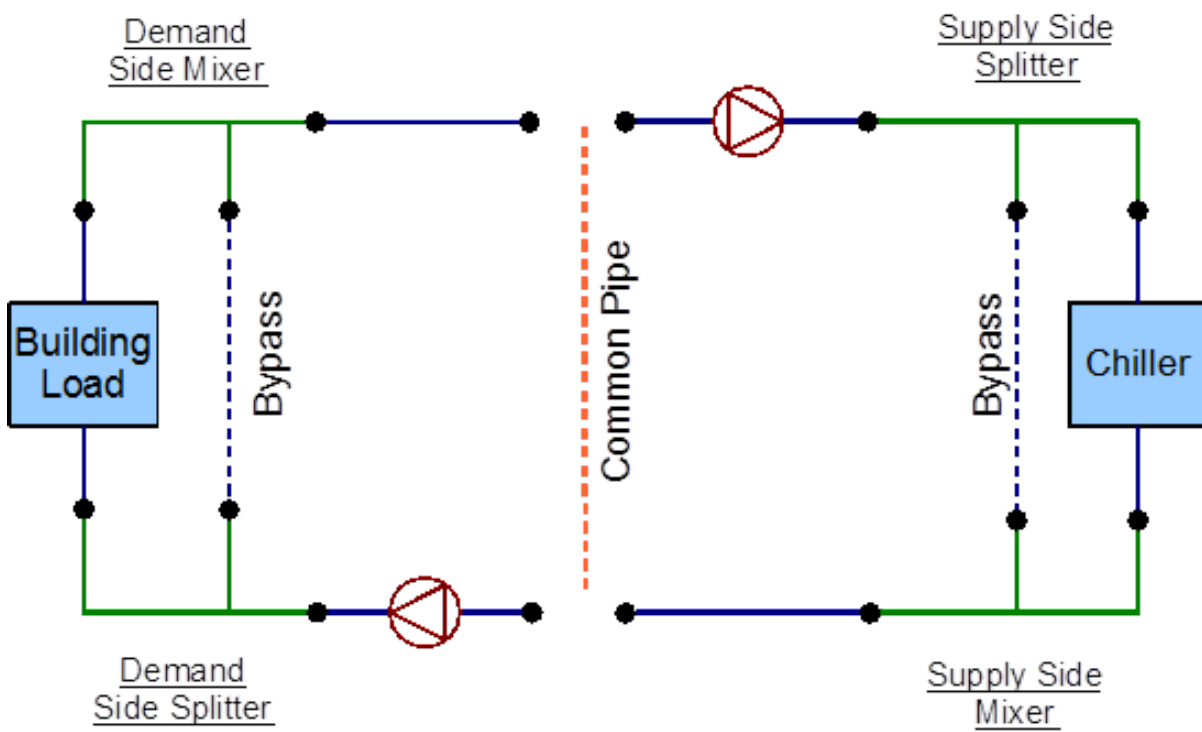

Figure 4.9: Complete EnergyPlus line diagram
8. An EnergyPlus diagram can be generated by using all the identified components. The complete schematic is shown in Figure 4.9.